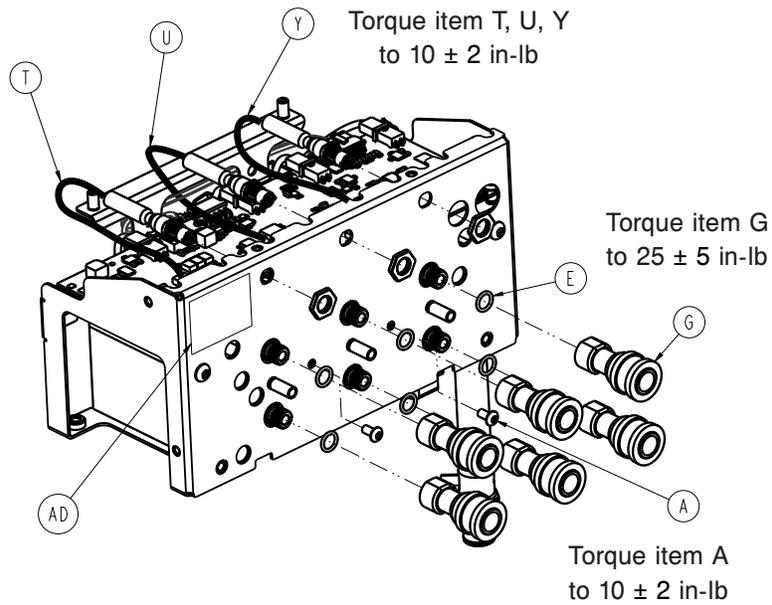

Figure 44 – Hose connectors
16. Using a 7/16" socket and ratchet, loosen the two nuts (D) that secure the MCB bracket to the control assembly bracket.
19. Using a crescent wrench, remove the six hose connectors (G) and O-rings (E) (Figure 44). Save the hose connectors.